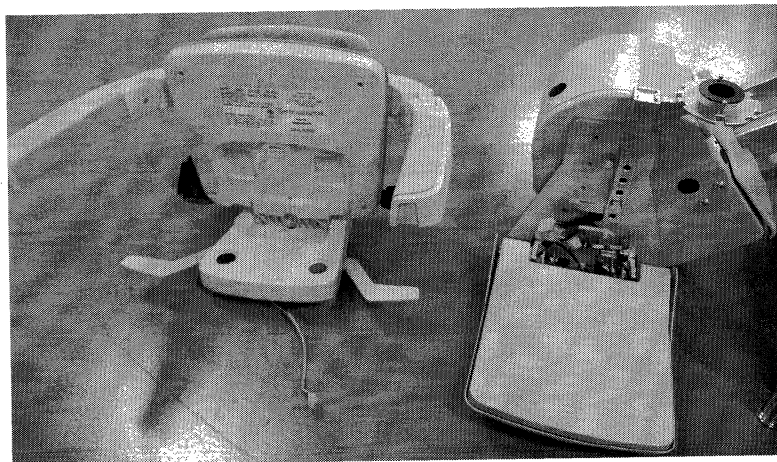

Fig. 3
2. Remove the Seat Swivel Pin (SRE-30073) and place the seat on a stable work surface [Fig. 3].